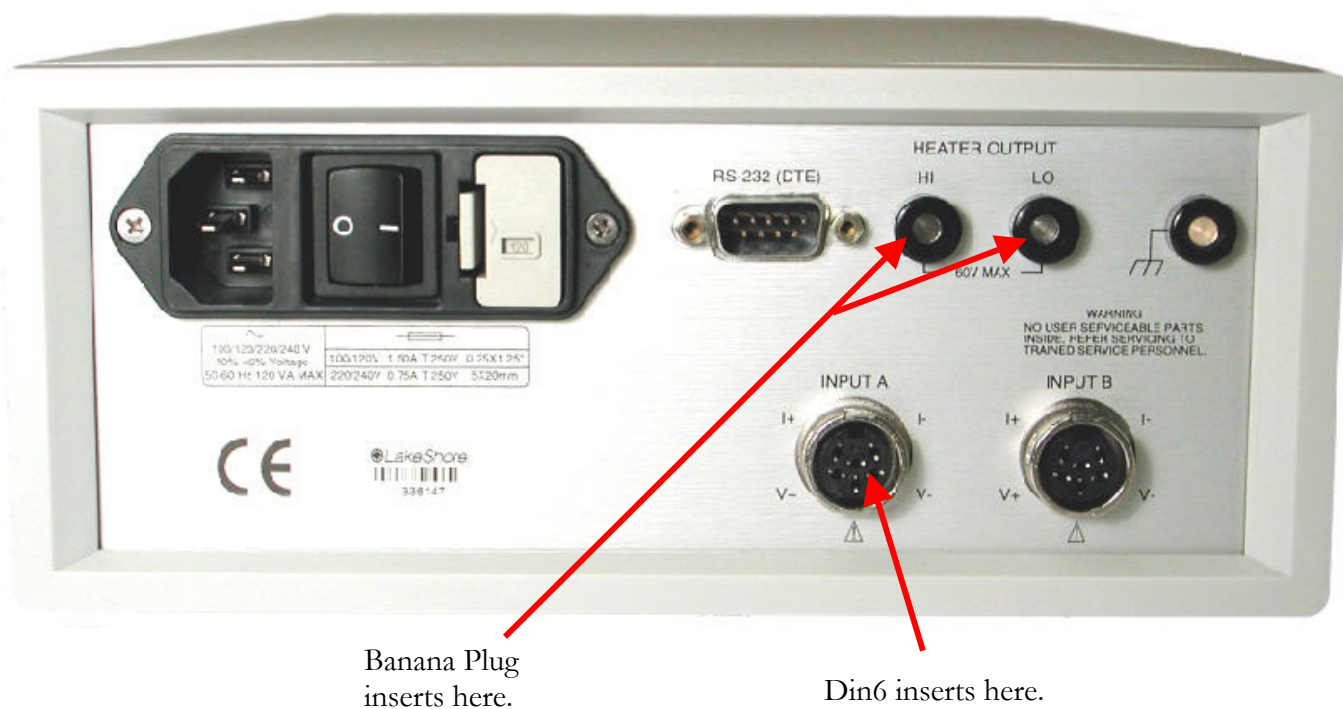

Figure 3 (Lakeshore Temperature Controller - back)
2. Plug the round Din 6 connector from the long cable into the sensor input on the controller back panel as shown in Figure 3 below.